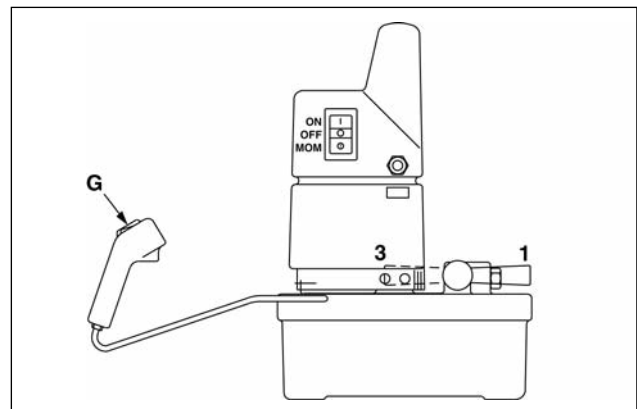

Figure 7
3. Open the pump vent plug (F) located on the front right corner of the reservoir by turning it 1 or 2 complete turns.
**5.1 Switch Operation (Figure 7)**